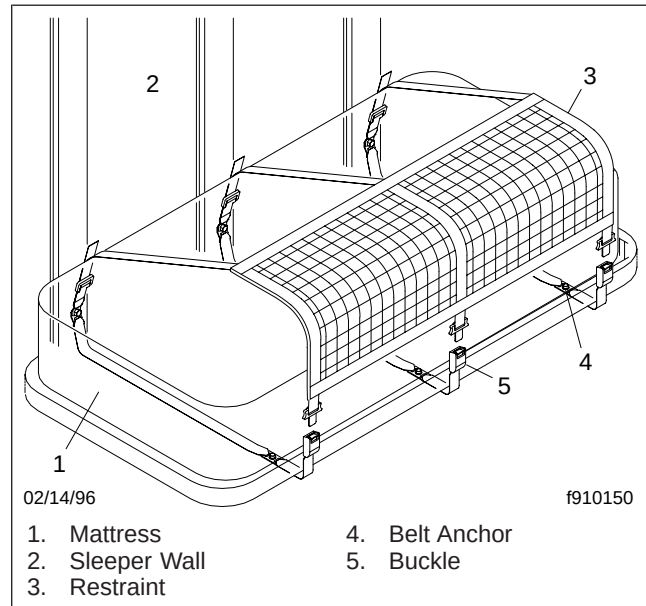

Fig. 5.11, Bunk Restraint
1. Starting at the foot of the bunk, pull up the link end of the belt far enough to engage the buckle. See Fig. 5.11.